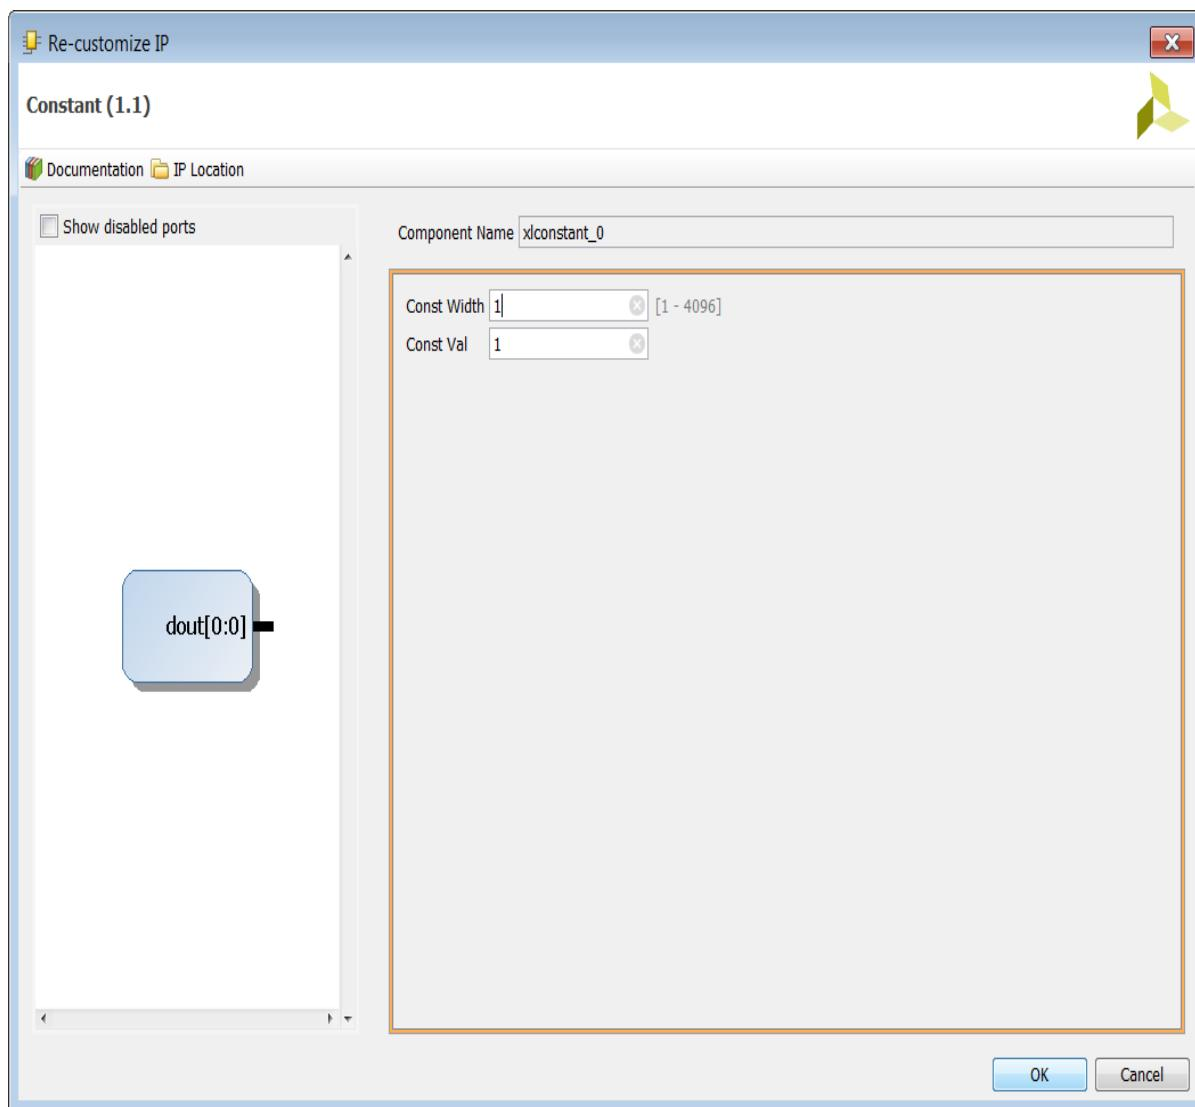

Figure 9-23: Constant IP Properties
- d. Double-click the Constant IP symbol (Figure 9-23) and verify that **Const Width** and **Const Val** are set to 1.